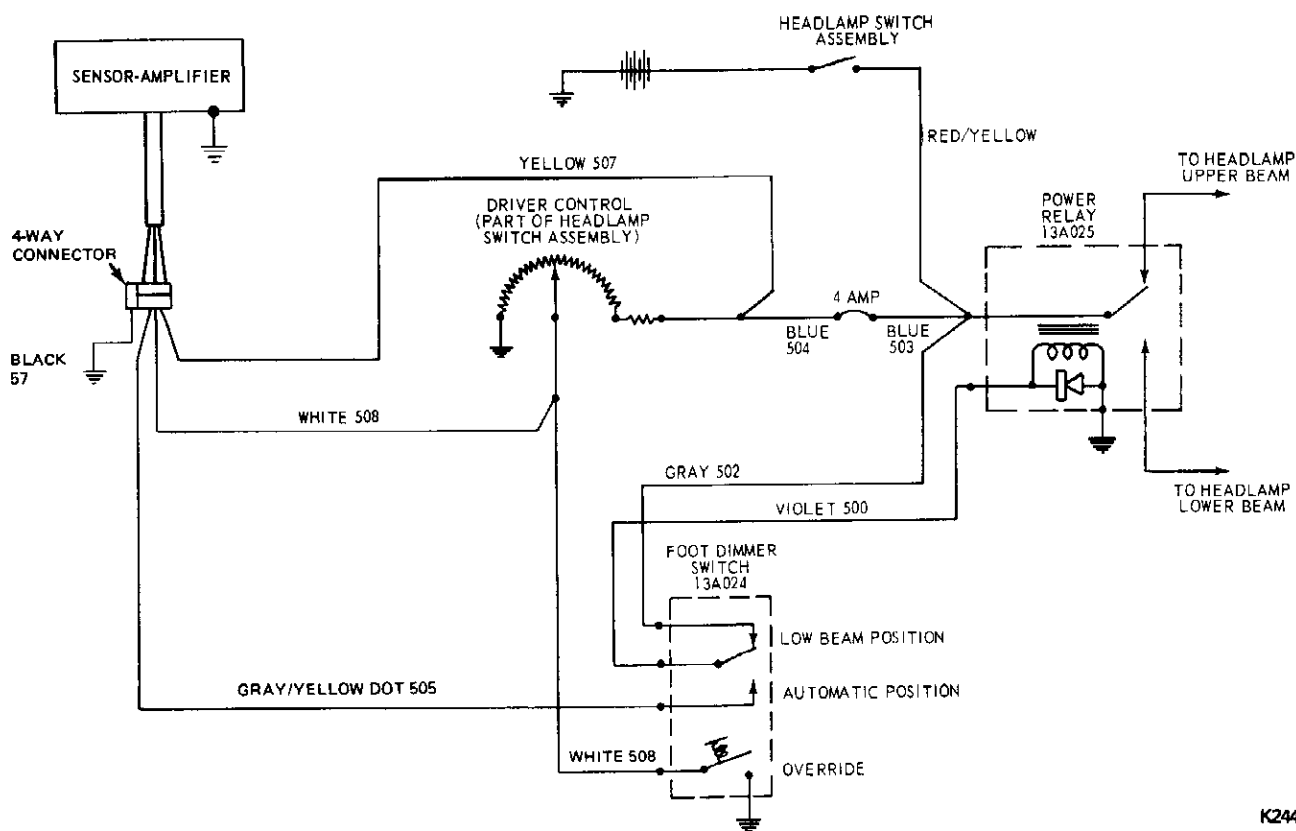

FIG. 1 Automatic Headlamp Dimmer Wiring Diagram
- b. Disconnect the white wire (override) from the foot switch (Fig. 1). If the lower beam is obtained in both positions of the foot switch, replace the foot switch.